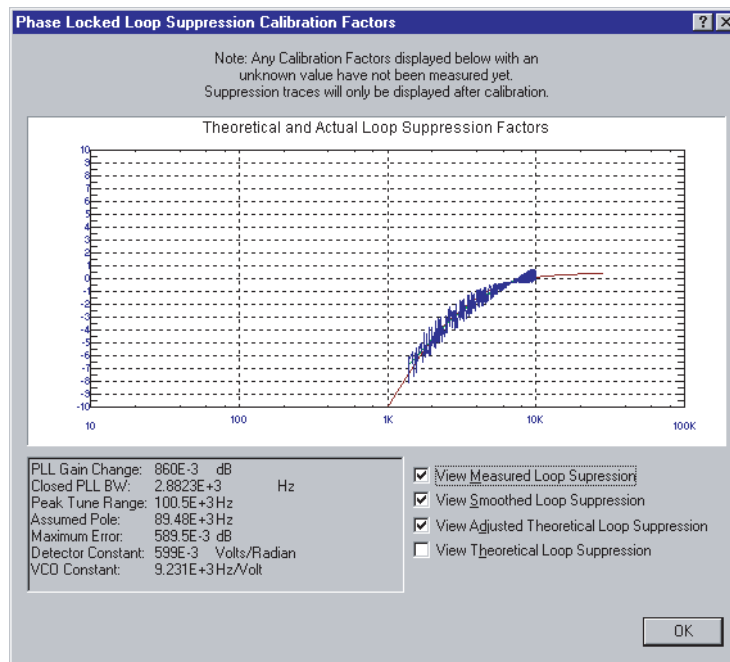

Figure 119 Selecting suppressions
- 2 When the PLL Suppression Curve dialog box appears, select **View Measured Loop Suppression**, **View Smoothed Loop Suppression**, and **View Adjusted Loop Suppression**. See Figure 119.